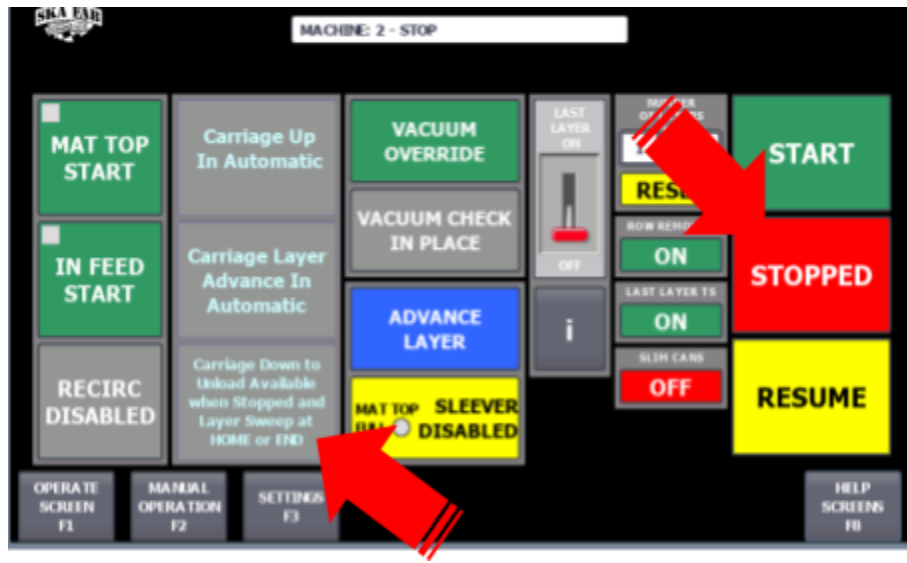

Fig. 21: HMI Screen – Stopped and CARRIAGE DOWN TO UNLOAD
2. After the last layer has been swept onto the pallet, if the NUMBER OF LAYERS was not reached or the LAST LAYER toggle was not activated, stop the machine by pressing the STOP button. Then press the CARRIAGE DOWN TO UNLOAD button on the HMI (Fig. 21). The pallet will lower to the floor.